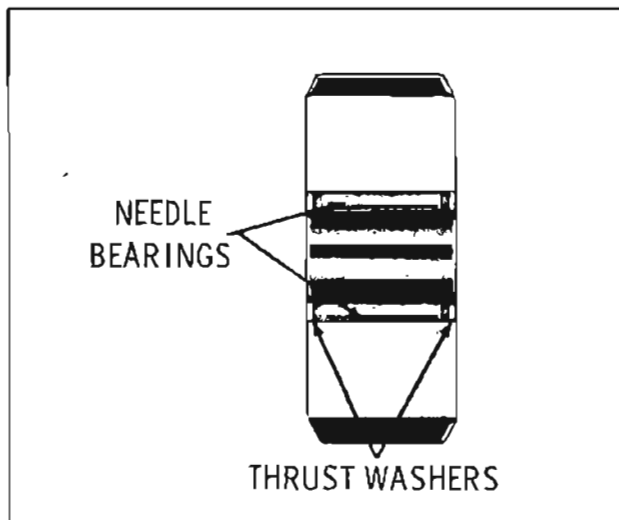

Fig. 6-404 Short Pinion Gear
10. Install 20 needle bearings and thrust washers. (Fig. 6-404) Lock needle bearings as shown in Fig. 6-397.